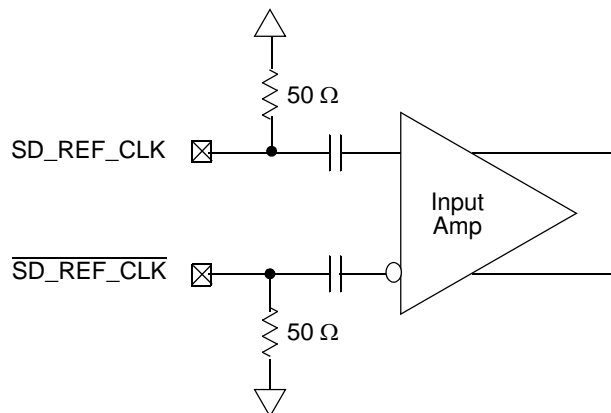

Figure 38. Receiver of SerDes Reference Clocks
Figure 38 shows a receiver reference diagram of the SerDes reference clocks.
- The SD\_REF\_CLK and  $\overline{SD\_REF\_CLK}$  are internally AC-coupled differential inputs as shown in Figure 38. Each differential clock input (SD\_REF\_CLK or  $\overline{SD\_REF\_CLK}$ ) has a 50- $\Omega$  termination to XCOREVSS followed by on-chip AC-coupling.